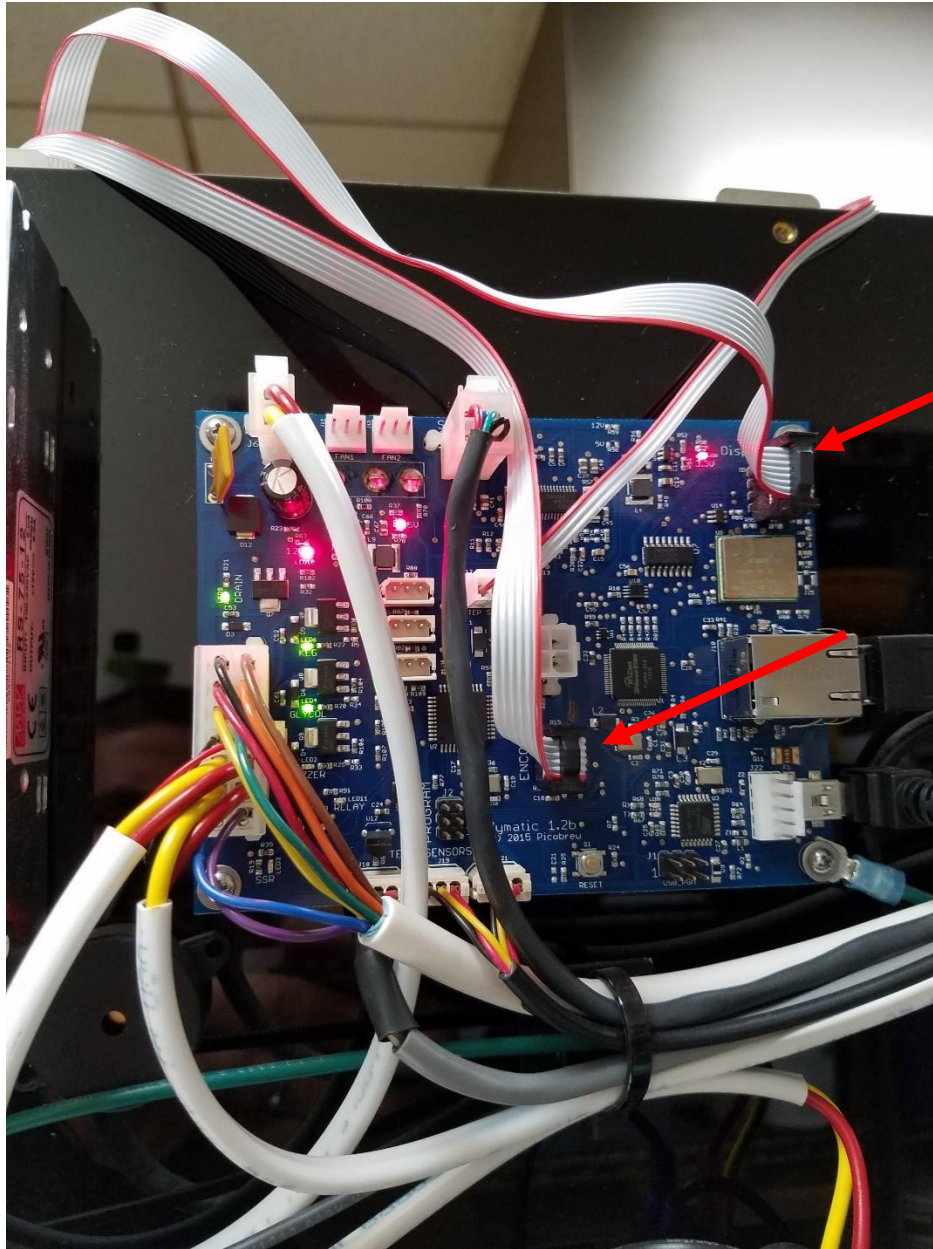

Figure 6
2. Disconnect the Rotary Switch, one connector on Main Board labeled Encoder. See Figure 6.
3. Disconnect the Display panel, one connector on Main Board labeled Display. See Figure 6.